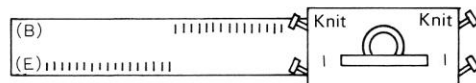

Fig.62
- Set both guide cam levers to “KNIT” and return cam levers to No.1 on each side. (Fig.62)
- At the opposite end to the carriage bring forward into position (E) the number of needles. (see also Fig.62) Knit one row.